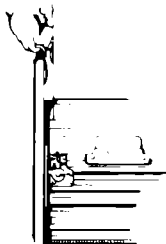

FIGURE 5
- a. Grip handle and raise front of drawer until it clears stops. See Figure 5.